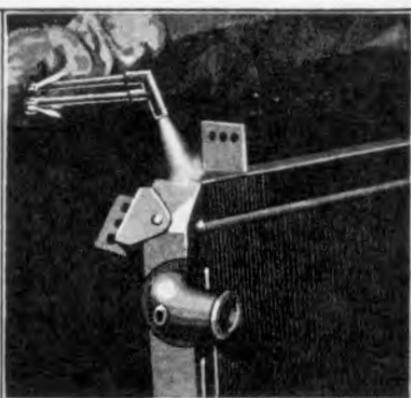

Fig. 405
- 813** The bottom tank as considered here, will include the tank, reinforcements, and outlet connection. The first thing to do in removing the lower tank is to detach the overflow pipe. The overflow pipe is loosened from the lower tank by heating the solder at the point where pipe is connected to tank. Next, detach the reinforcements from the radiator support. The support and the reinforcements are spot-welded. The welds may be broken by driving a cold chisel between them; if the parts do not come apart readily, they can be heated with the torch. Next heat the surface of the reinforcement attached to the lower tank, brush off the solder and swing the reinforcement out of the way (See Fig. 405). In the same way detach the other reinforcement.